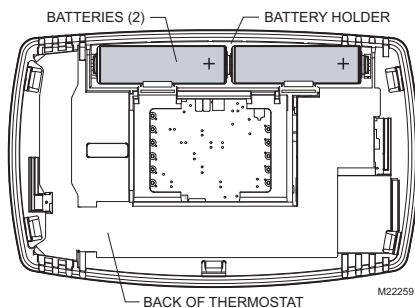

Fig. 21. Installing batteries.
1. Install two AA alkaline batteries in the back of the thermostat as marked. See Fig. 21.